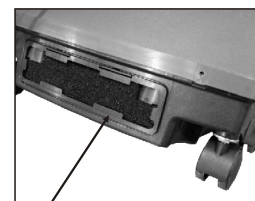

Figure 5
- ▶ Clean the I-stage filter once half a month. I -stage filter can be taken out of the foreside panel. (Figure 5, 6)